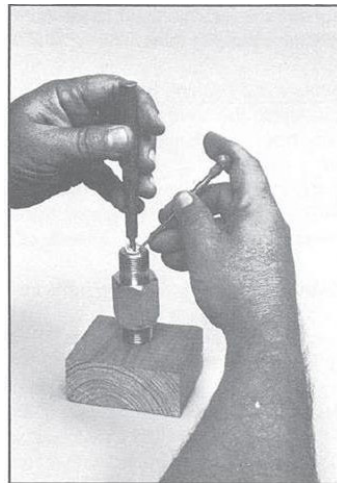

Figure 3:
3. Screw in the gland and tighten to compress the packing. Remove the gland and blow or pick out any small pieces that may be in the threads. See Figure 3.